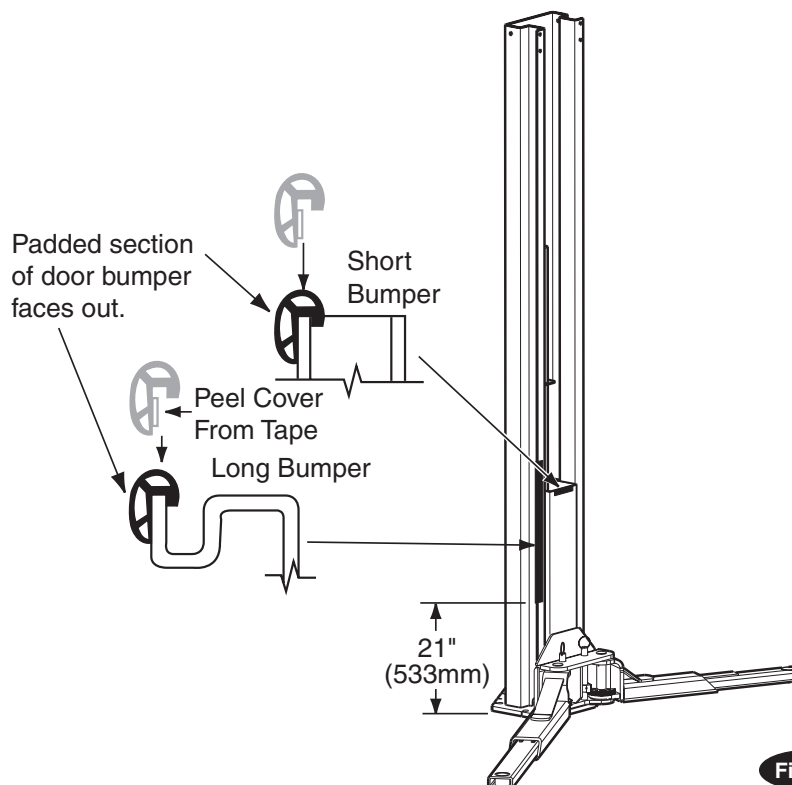

Fig. 31
- A) Press long bumper on column edge, Fig. 31.
- B) Press short bumper on top edge of carriage tube, Fig. 31.